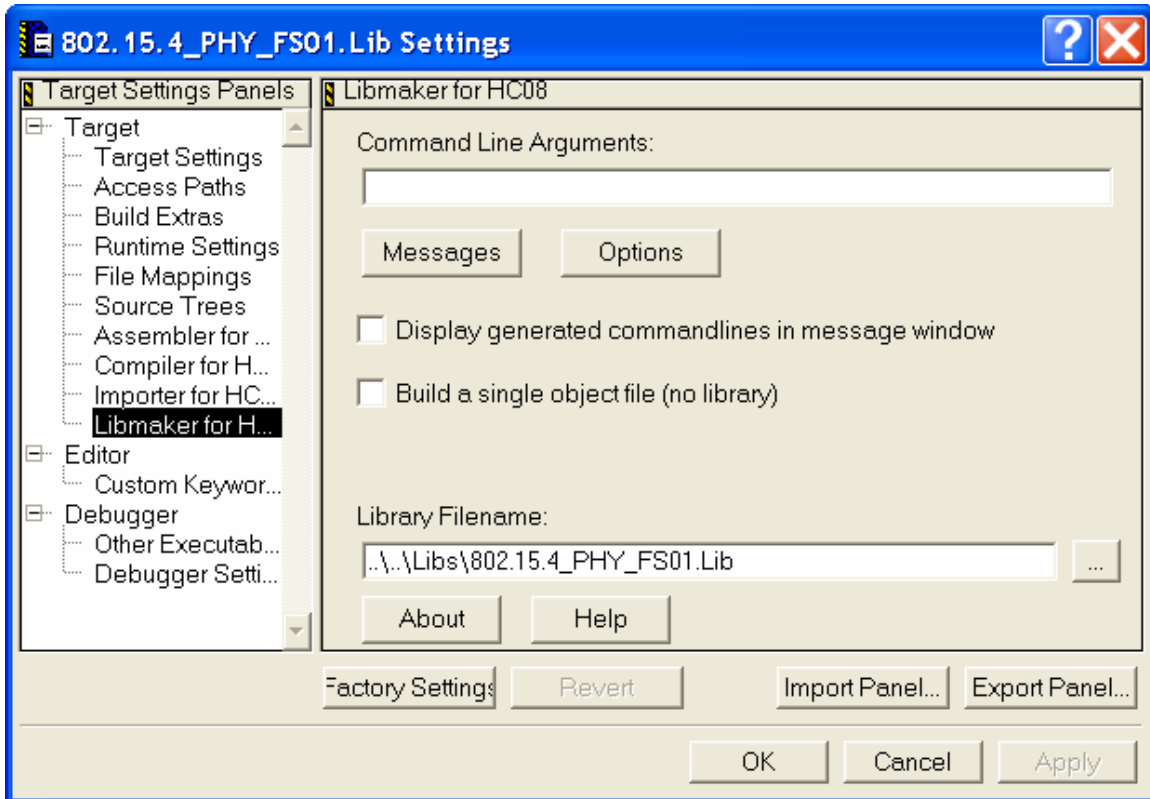

Figure 2 – Setting Up Options for Libmaker
After creating the target, select it in the project window drop down list and open the Settings dialog (choose the icon to the right of the target drop down list or from the Edit menu, item 802.15.4_PHY_FS01.Lib Settings...). Modify the Libmaker settings as shown in **Figure 2** and enter **..\Libs\802.15.4_PHY_FS01.Lib** as the Library Filename for the output of the library build. This will place the resulting library in this folder: